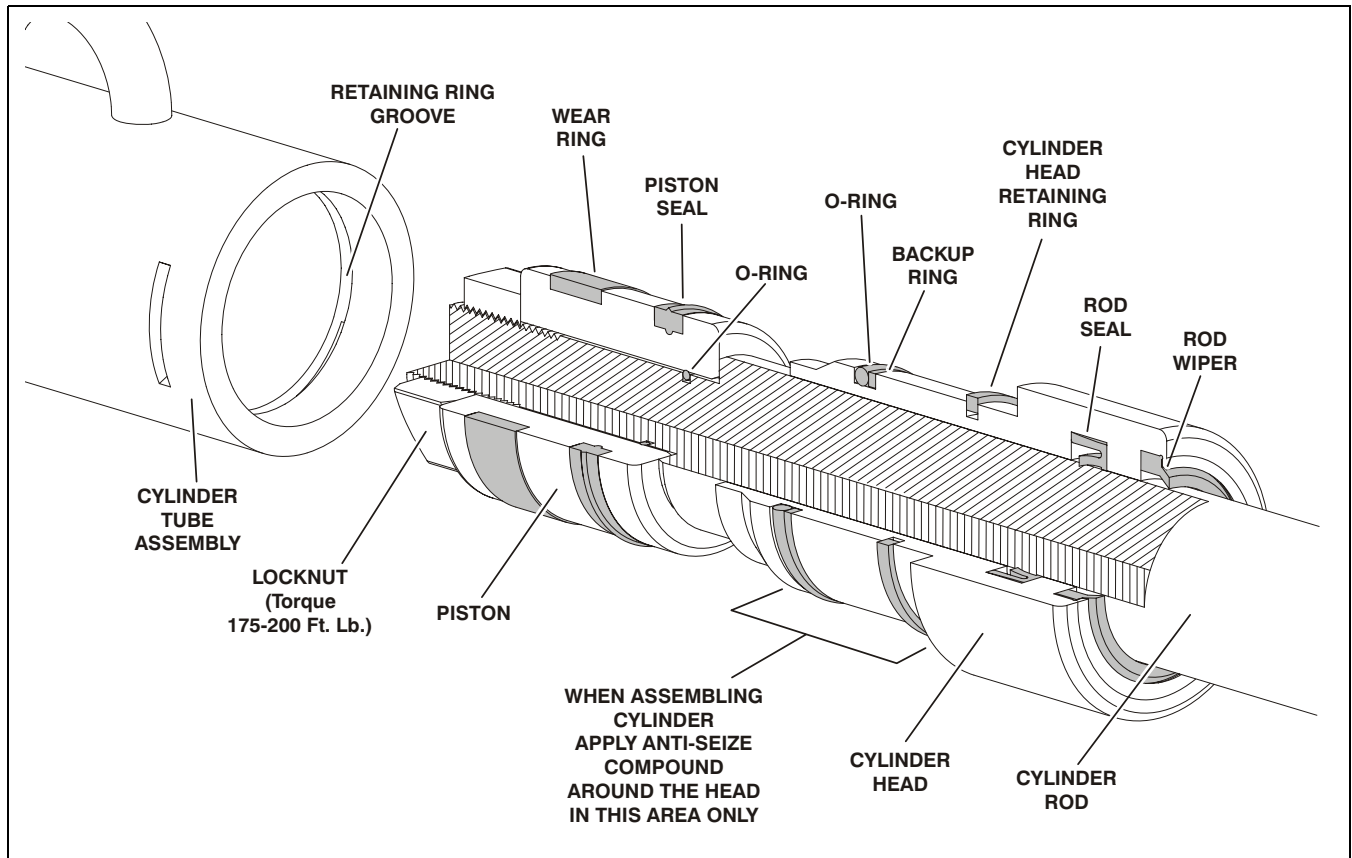

Figure 2-1. Lift Cylinder Internal Component Assembly Cross-Section.
(See Figure 2-1.)
1. Place mast section-1, rail (open) side up (See Figure 2-1.) on a clean, flat surface (*preferably a table or work bench capable of supporting the weight of the entire mast assembly*). Slide mast out over end of work surface far enough to allow access to the chain anchor attach holes at top of mast.
2. Locate the two (2) single (*wide*) chain assemblies. Lay out each chain assembly with anchor block end towards mast, and notched end of block down, (*be certain floor surface is clean and free of any metal chips or debris which may stick to lubricated chains or lay chains in a clean bucket*).
3. Insert the block anchor end (with notched end on bottom) into the top of mast section-1 and secure using two (2) 3/8"-16UNC x 2-1/2" long hex head bolts, flatwashers and nuts for each attach block. Place a flatwasher under bolt head and nut.